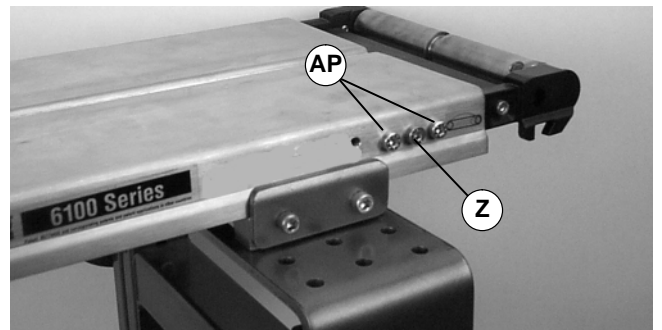

Figure 32
1. Remove screw (Z of Figure 32).
2. Remove four (4) tail plate mounting screws (AP of Figures 32 & 33).